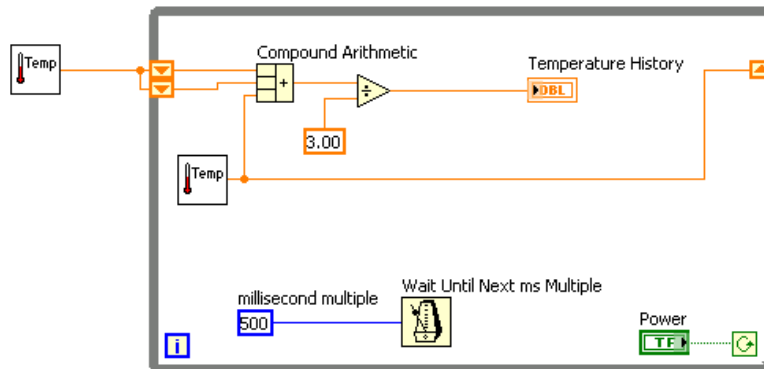

Figure 7.10
4. Modify the block diagram as in Figure 7.10.